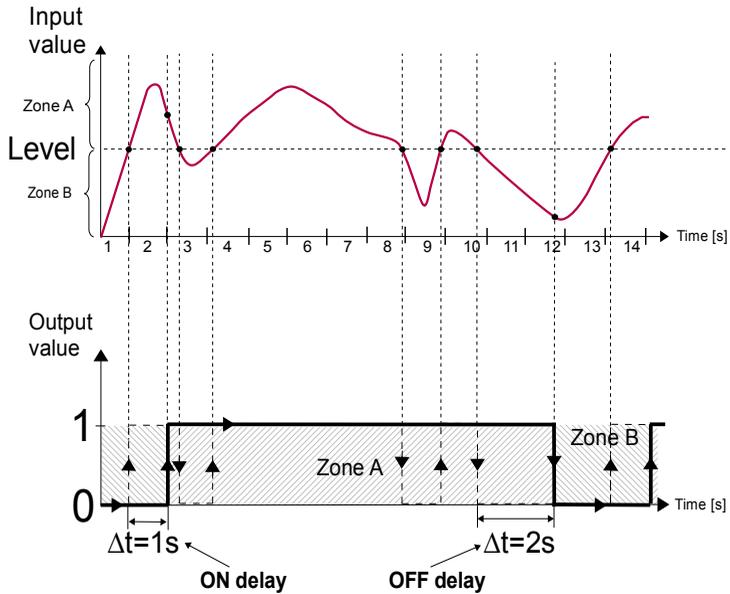

Fig. 7.82. Principle of virtual relay operation for sample timing settings:
- **ON delay** - this parameter allows to set the time that must pass from the time of exceeds **Level** value until the output switches from low to high state (see Fig. 7.82),
- **OFF delay** - this parameter allows the user to set the time that must pass from the time of exceeds **Level** value until the output switches from high to low state (see Fig. 7.82),